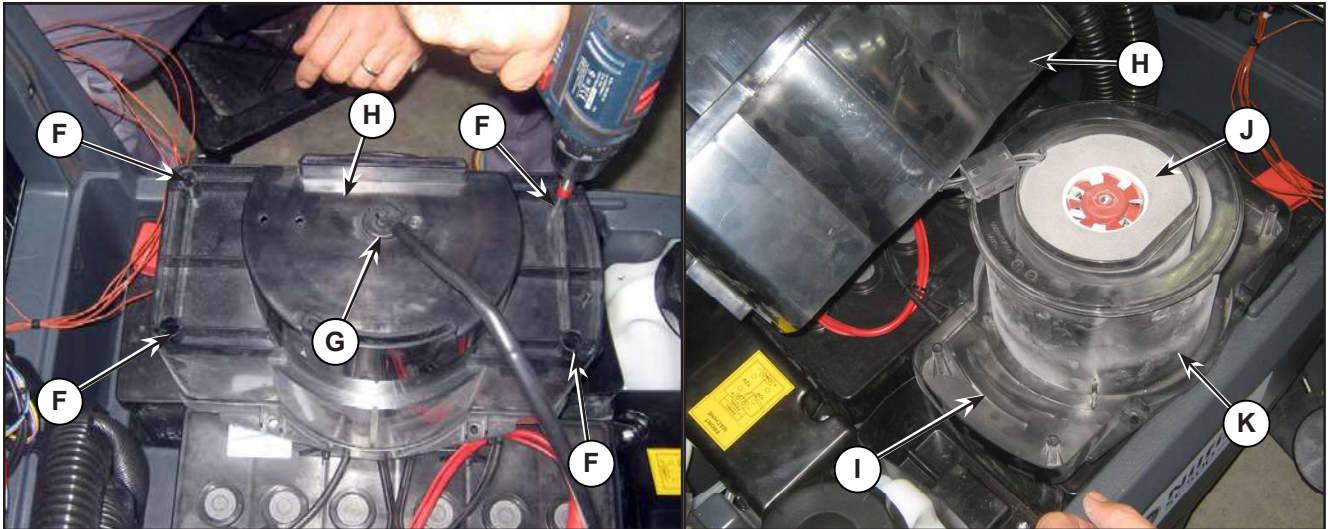

Figure 9:
7. Unscrew the 4 screws (F) and cut the retaining strap (G) (Figure 9).
8. Remove the external soundproofing support (H) from the internal soundproofing support (I).
10. Remove the seal (J) and the internal support (K).